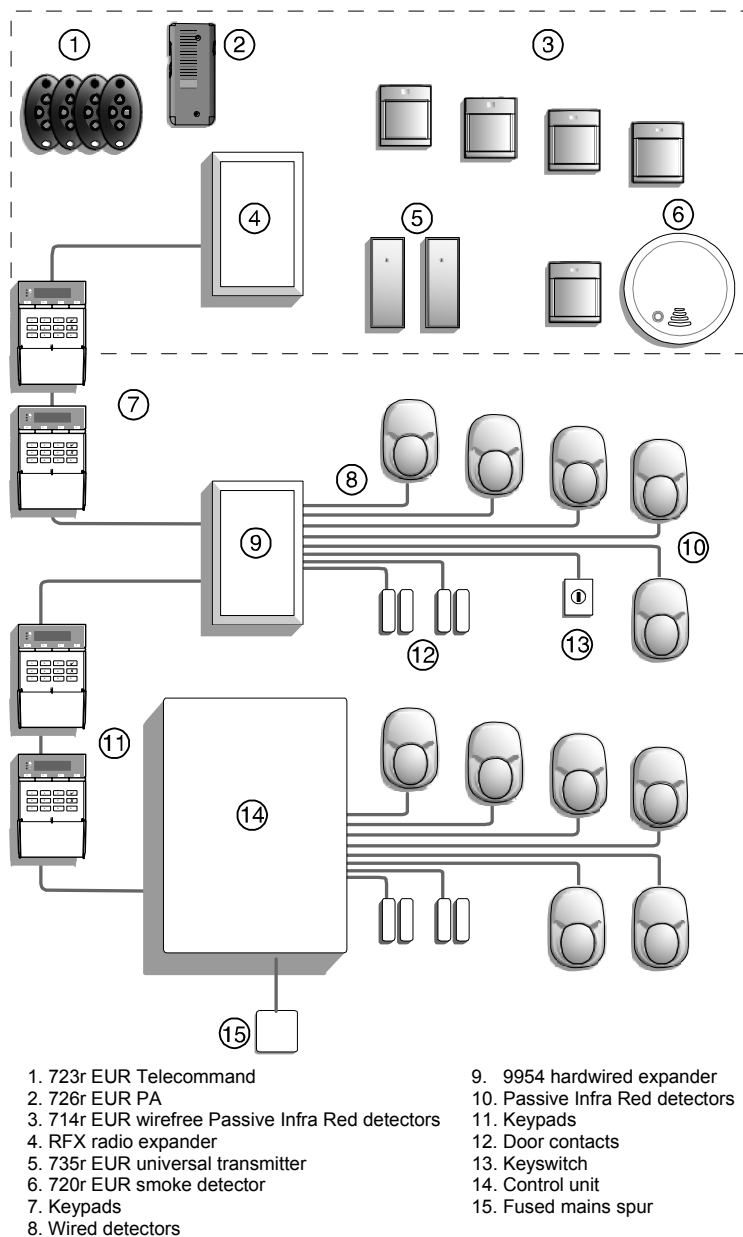

Figure 1. Elements of an Intruder Alarm System
Figure 1 shows how these elements are connected. In this example, the control unit (14) is directly connected to 6 detectors and 2 door contacts.